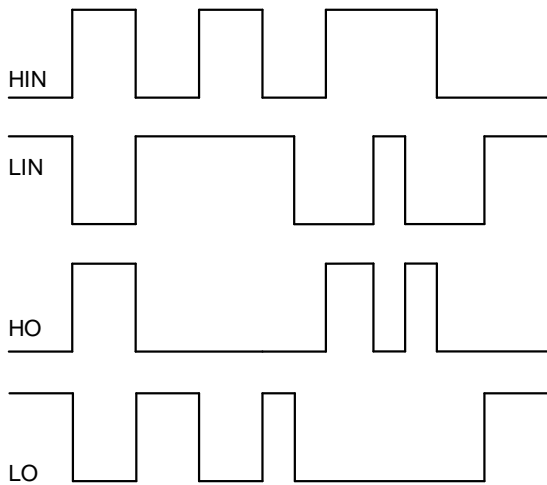

Figure 3. Input/Output Timing Diagram
**Note:** The input/output logic timing diagram is shown in Figure 3. For proper operation the device should be used within the recommended conditions. The VS offset rating is tested with all supplies biased at a 15 V differential.